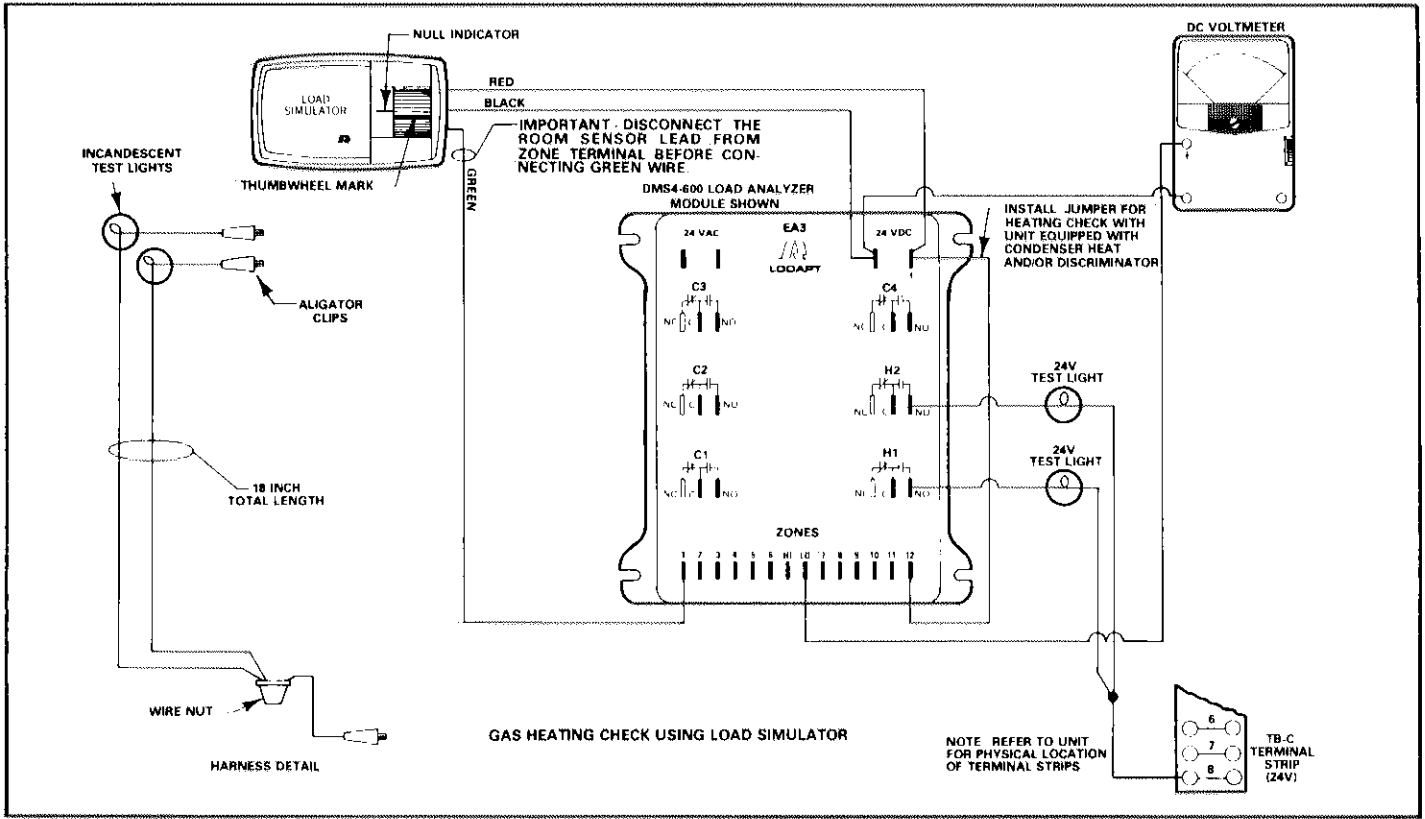

FIGURE 42
- 1 - If the unit is equipped with condenser heat and discriminator, install a jumper between the 24 VDC (+) terminal and any zone terminal to provide a cooling demand. See Figure 42.
- 3 - Connect test lights to the heating logic relays and No. 8 terminal of TB-C terminal strip. For ease in installing test lights, we recommend making a harness as shown in Figure 42.